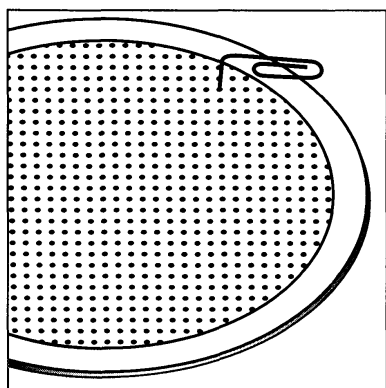

FIGURE 2
1. Separate the parts of the speaker. If the speaker is not yet installed, the grille can be removed simply by pushing the clamp screws forward to push the grille off the speaker from the inside. If the speaker is already in the wall, carefully hook the grille with a bent paper clip and pull it gently away from the frame. [Figure 2]